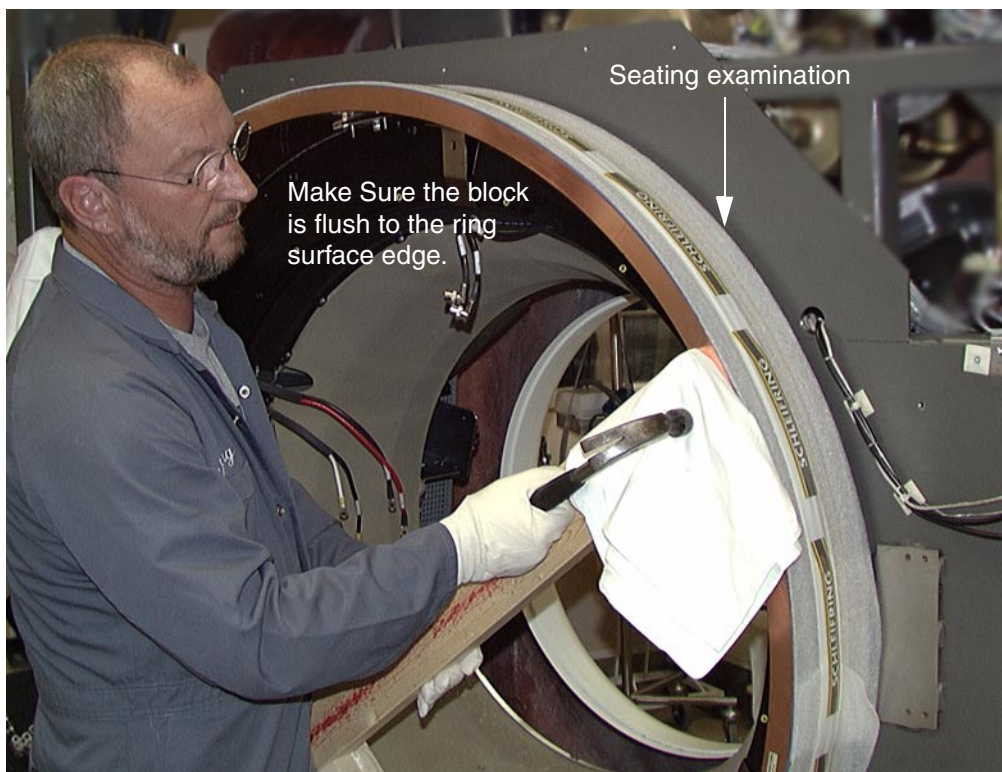

Figure 2-10 Slip-ring Seating
- 5.) Fasten slip-ring to Bearing Flange: (Requires 2 people) Reference Figure 2-10.
- b.) Install four (4) bolts in every other hole first.